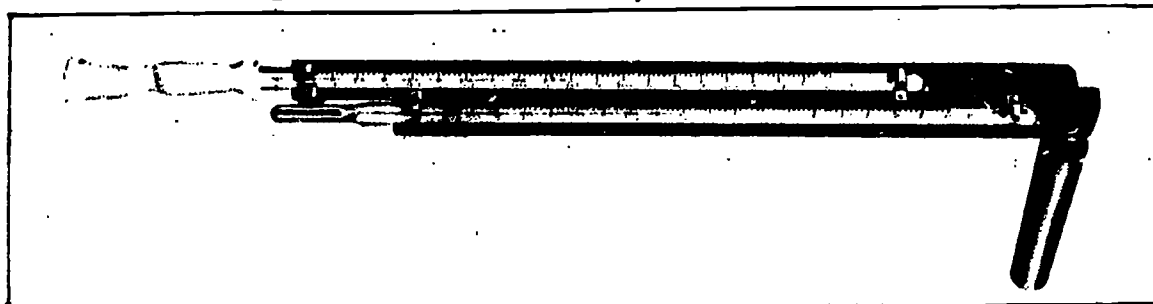

Fig 1-8. Sling psychrometer.
(2) Psychrometers. Instruments for measuring both wet- and dry-bulb temperatures at the same time are known as psychrometers. There are several different types of psychrometers. The one which you will use the most is a sling psychrometer (fig 1-8) which is made up of a wet- and dry-bulb thermometer mounted side by side on a common base with a handle that enables the whole apparatus to be whirled around in the air. The fabric covering on the wet bulb is saturated with distilled or clean, fresh water and then the entire apparatus is whirled around in the air (four or five times) as fast as possible until the wet bulb reaches its equilibrium. Then, a reading of both thermometers is quickly taken. The difference between the two thermometers will depend on the relative humidity of the air. Another